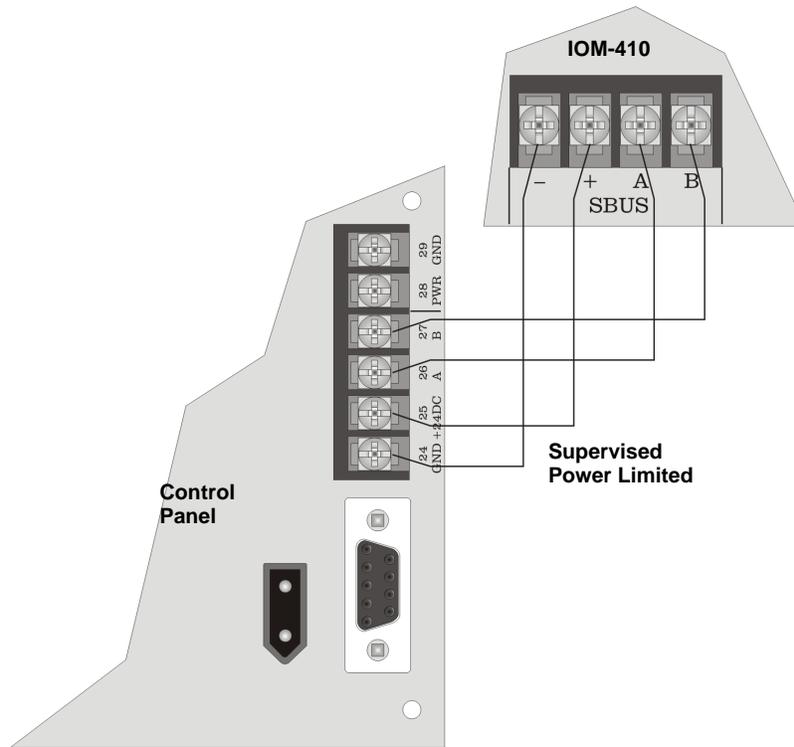

Figure 3-15 Model IOM-410 Connection to the Control Panel
Wire the IOM-410 as shown in Figure 3-15. Maintain a physical separation of one-half inch or more between field wires and connection points to prevent damage from transients.
3. Connect the IOM-410 to the control panel control panel as shown in Figure 3-15.
4. Connect the IOM-410 to the control panel as shown in Figure 3-15.